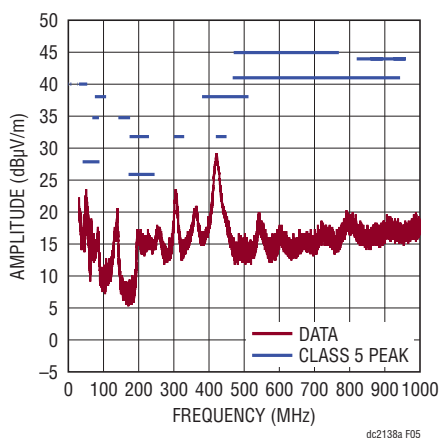

Figure 5. Radiated EMI Vertical polarization, CISPR 25 Peak Limit 5, 14VIN, 0.7A
5. Figure 5 shows the radiated EMI (Vertical Polarization) performance with the installation of the optional component (C9 560pF). The circuit passed the CISPR 25 Class 5 Peak Limit 5, with less than 2 percentage of efficiency drop at full load condition (0.7A, 14VIN).